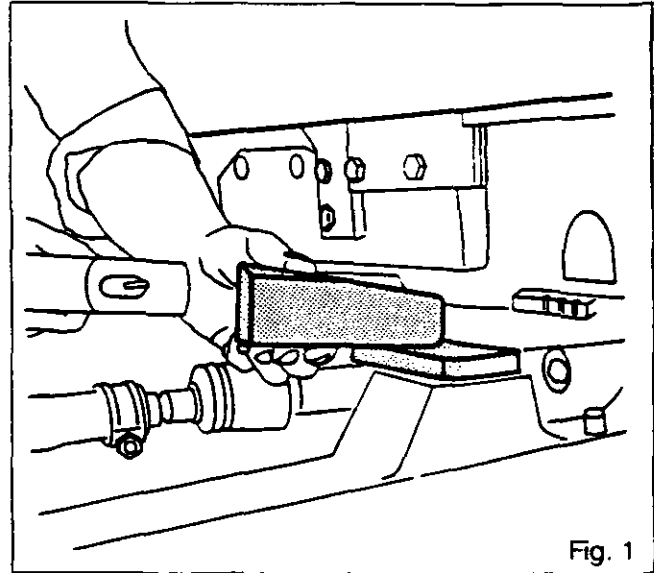

Fig. 1
2. Place a wedge between the frame and the front axle (Fig. 1).